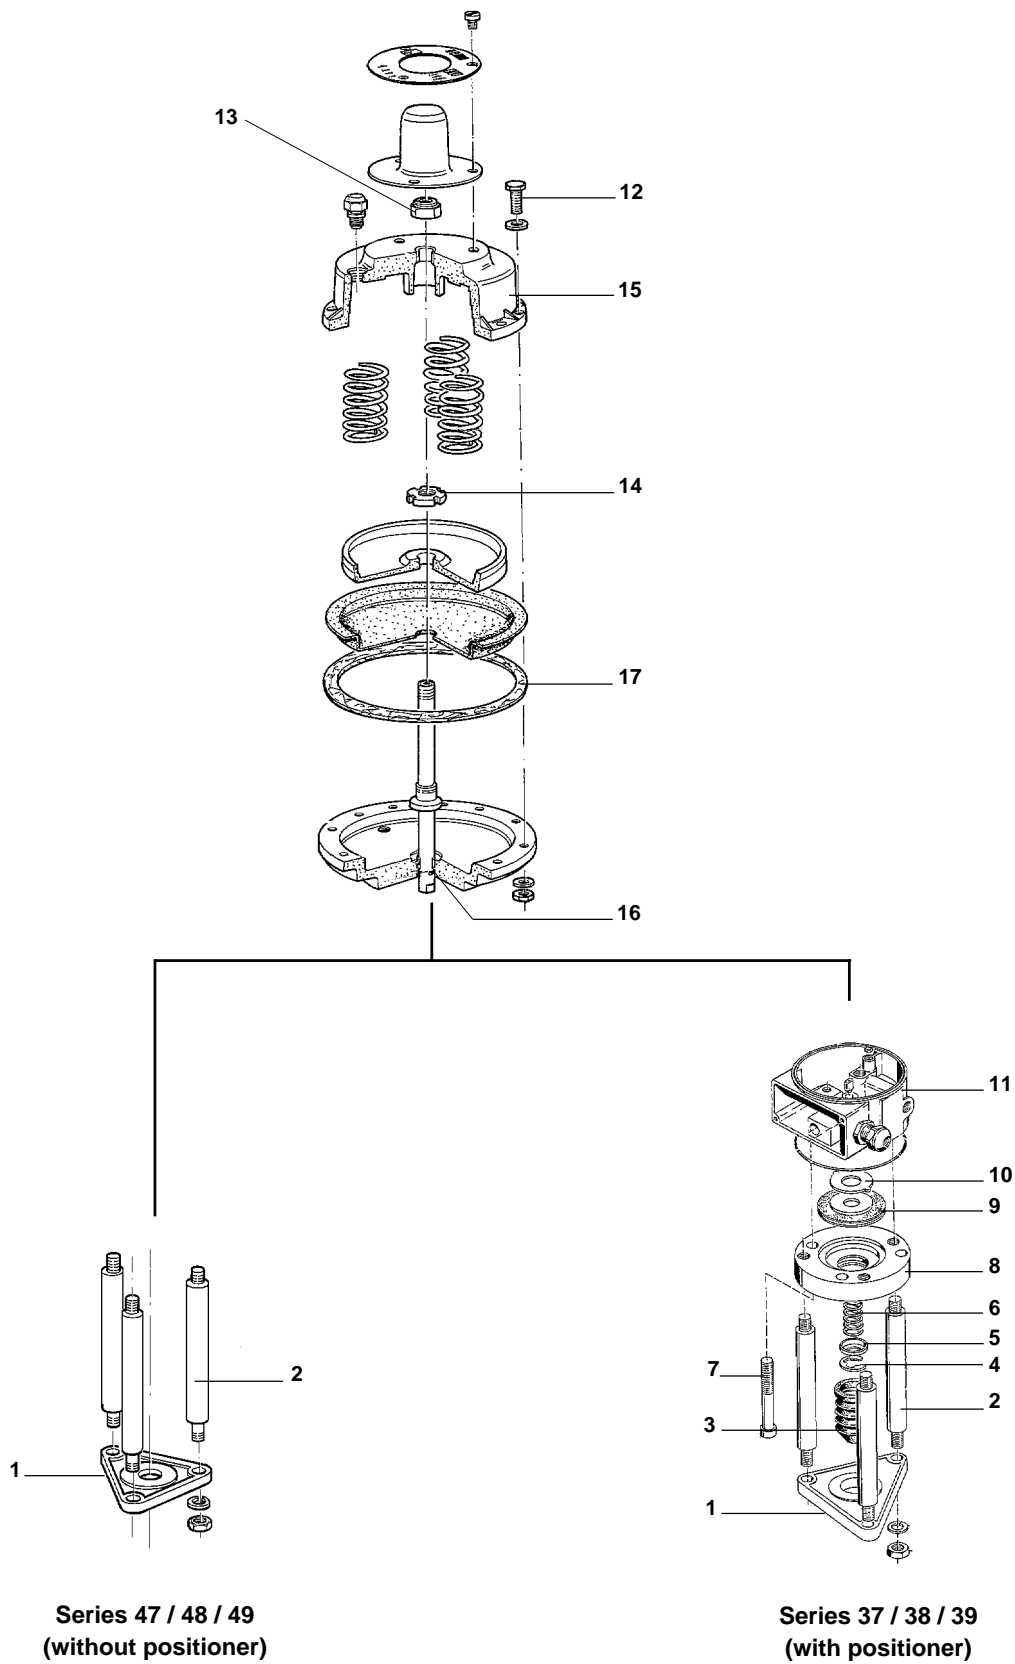

Fig. 9
(refer to figs. 9 and 11)
7.1.2 Actuators without adjustable positioner spring (see Fig. 9)
(refer to figs. 9 to 13)
(see Fig 9)